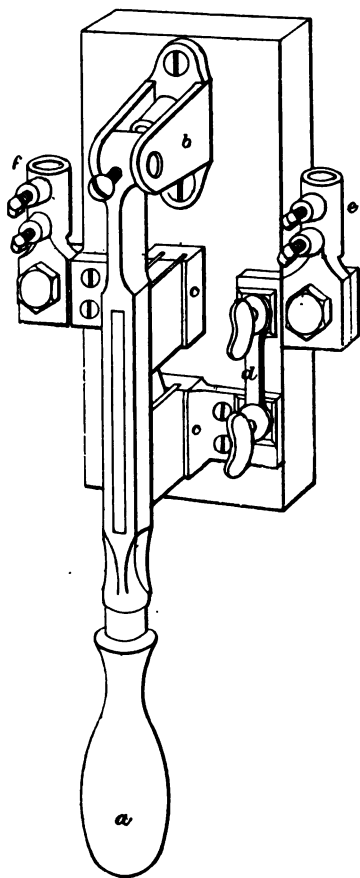

Fig. 20.—Double-break Switch and Cut-out.
*Single-Pole Single-Fuse Switch.*—In many cases only a single dynamo is carried, and the vessel is wired for ship return, or the negative or positive pole of the dynamo is earthed. In such instances a single switch is sometimes considered sufficient for the simple requirements of the lighting. The pattern represented in Fig. 20 will be seen to contain all the elements of such a switch. It is furnished with double-break arrangements. The lever *a*, which is jointed at *b*, carries a knife-blade connector, which makes contact at *c* and *e*. The cut-out is inserted at